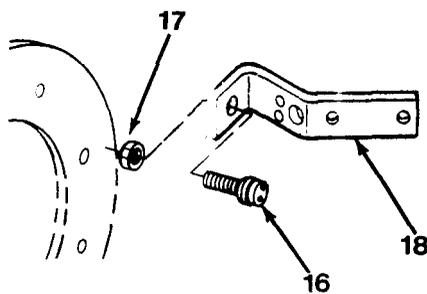
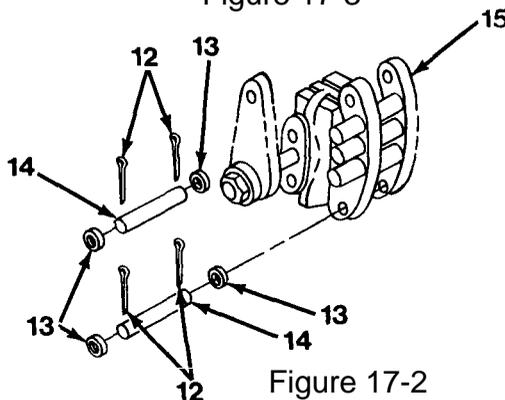
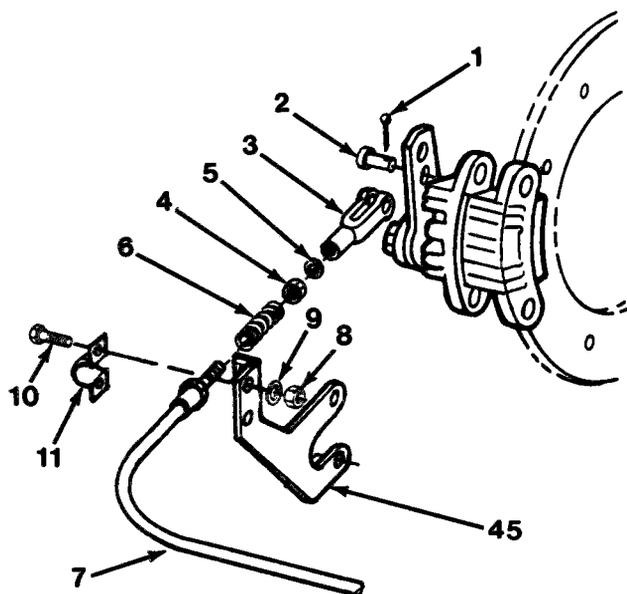

Figure 17-3
Figure 17-2
Figure 17-1
6. Install sensor (16) on bracket (18) with jam nut (17, Figure 17-3). Adjust sensor (refer to page 17-45, step 3).
7. Connect wiring harness to sensor (16). Note tag from removal.
8. Position caliper assembly (15, Figure 17-2) on front axle.
9. Apply grease MIL-G-10924 to two mounting pins (14) and install two mounting pins (14), four washers (13) and cotter pins (12) securing caliper assembly (15) to front axle.
10. Install clamp (11), two capscrews (10), lockwashers (9) and nuts (8) to secure cable (7) to bracket (45, Figure 17-1).
11. Install spring (6), washer (5), nut (4) and yoke (3) on end of cable (7).
12. Install pin (2) and cotter pin (1) in hole closest to lever pivot.
13. Check cable (7, Figure 17-1) for correct adjustment and ease of movement. With lever in cab in up position, pins (49) should rest in bottom of groove in cam (39, Figure 17-6).
14. Adjust two pad holder assemblies (42) clearance to 0.010 to 0.020 in. (0.25 to 0.51 mm) by turning castle nut (36) in or out until proper clearance has been obtained. Install cotter pin (35).